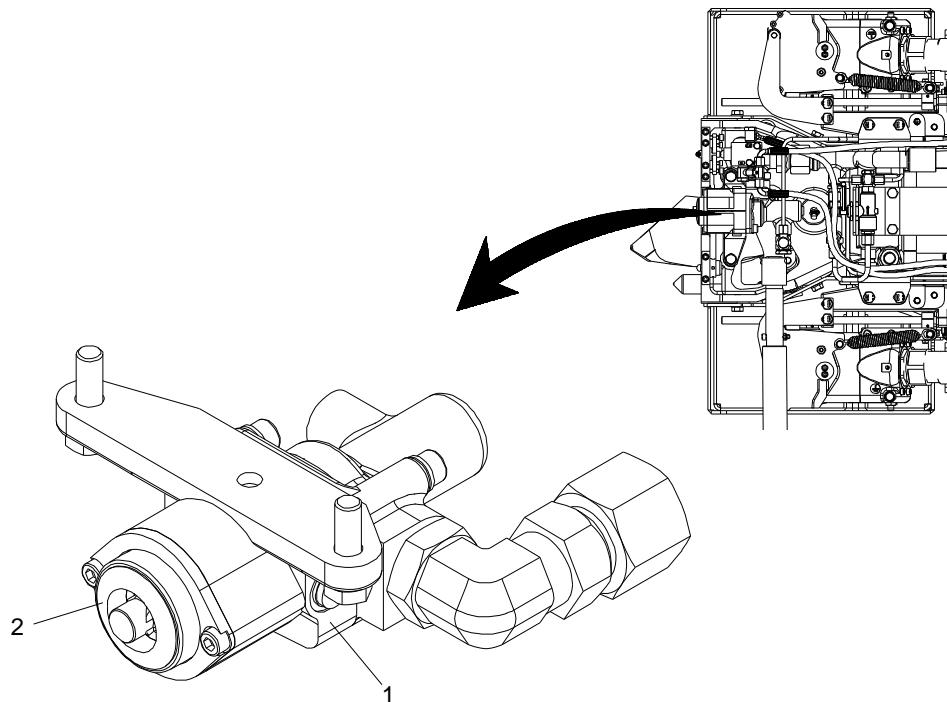

Figure 5-12: Inspect MRP Valve
1. Clean MRP valve (1) using water. Dry valve with lint free cloth. See Figure 5-12.
2. Inspect MRP valve (1) for damage and missing parts. Replace parts as required.
3. Check the MRP valve front seal (2) for deterioration. Also check that front seal is moving correctly by pushing it, seal should align with the coupler front face. Replace front seal if necessary.